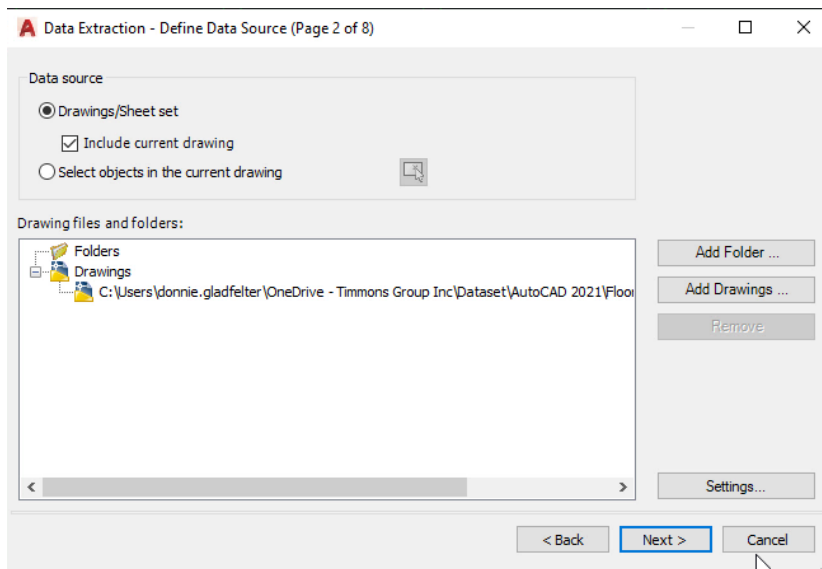

Figure 45: Specifying the drawings to extract data from.
4. Specify the drawings to perform the Data Extraction on from the Data Extraction – Define Data Source dialog box (see Figure 45). Only the current drawing is included by default, although you can add more drawings as needed.